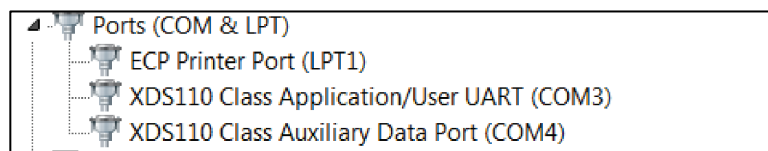

Figure 2. Device Manager Ports
1. If the mmWave device is connected by the USB cable to the PC running this app, then you can locate the following COM ports using the Device Manager on a Windows PC (see Figure 2).